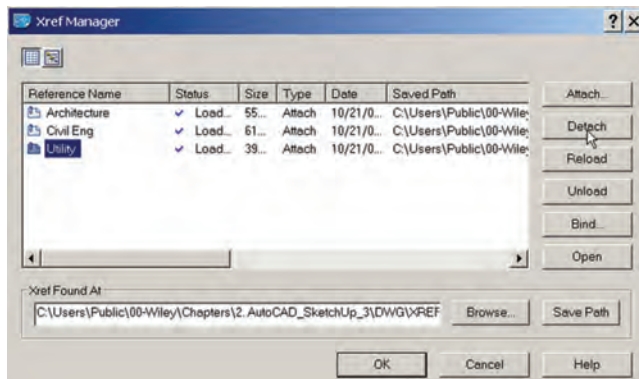

Fig. 17-8: Detaching an Xref within Xref menu. The Detach command option is on the right.
- b. Select the files that will be removed (Fig. 17-8).
- c. At the right of the menu, with the files selected, choose Detach (Fig. 17-8). This will remove the selected Xrefs from the file.